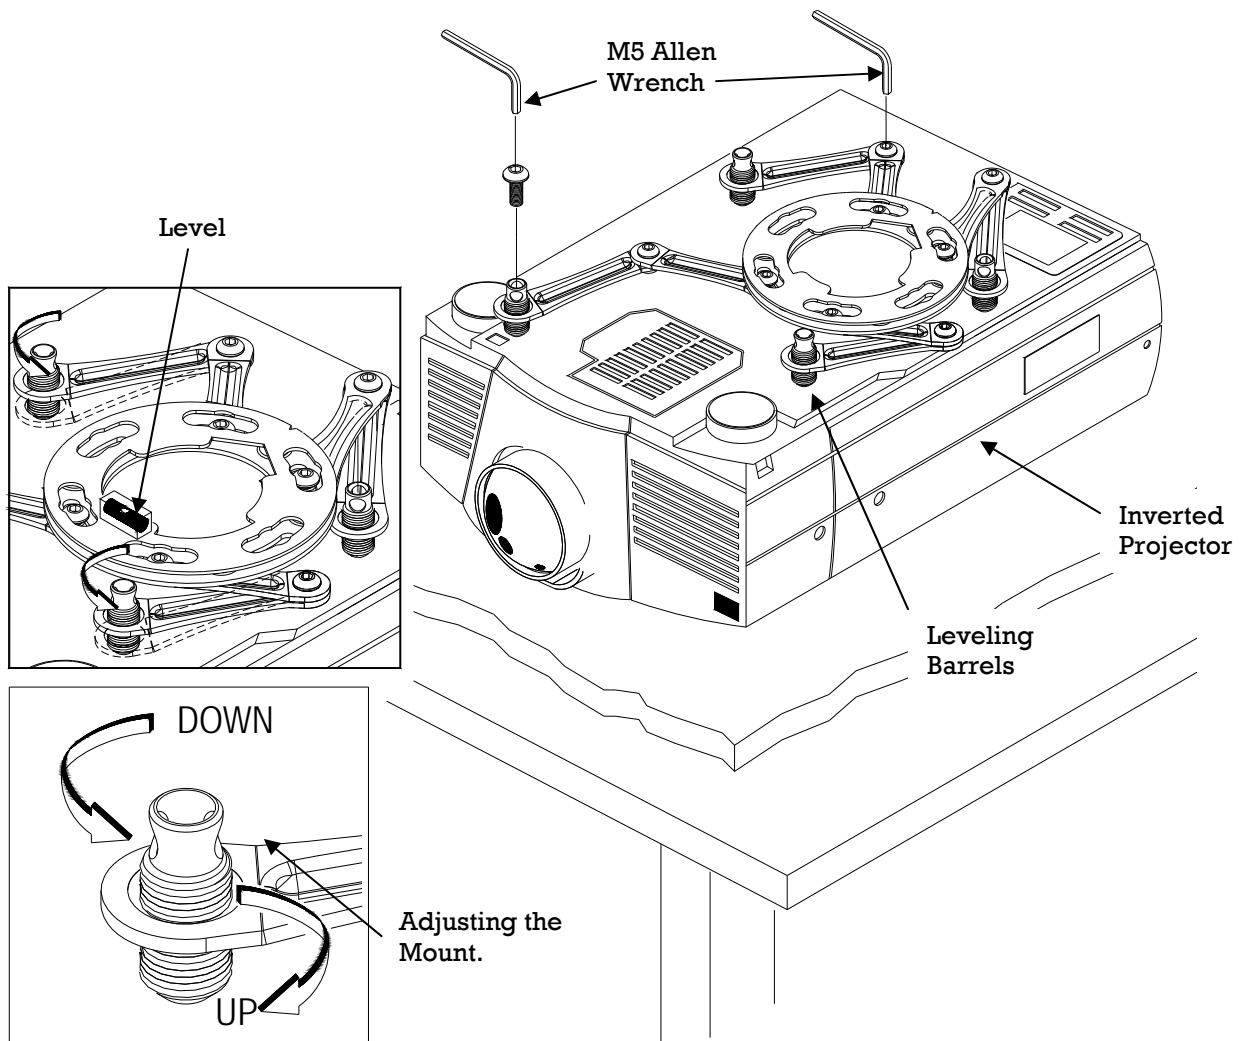

Figure 4. Leveling the Mounting Bracket
- Step 3. When the desired position is achieved, tighten the mounting screws to the projector and then tighten the hex head leg screws with the M5 Allen wrench (Figure 4).